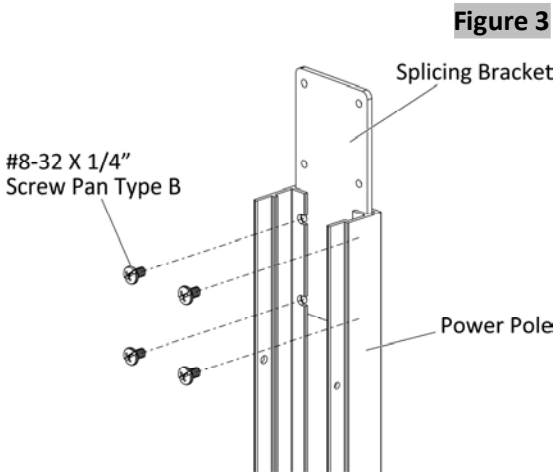

Figure 3
6. Securely fasten splicing bracket into the power pole with four #8-32 X 1/4" Screw Pan Type B, (Figure 3).